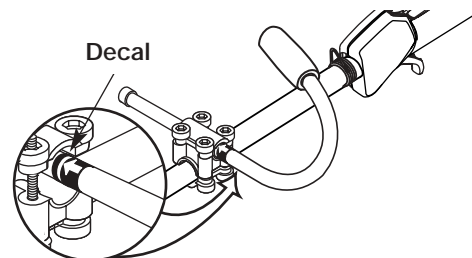

Fig. 4
2. While holding the three pieces together, install the four (4) screws through the top clamp and into middle clamp.
5. Slide the J-handle in or out until the arrow/white line on the decal touches the clamp assembly (Fig. 4). You must first loosen the screws if the handle is pre-installed.